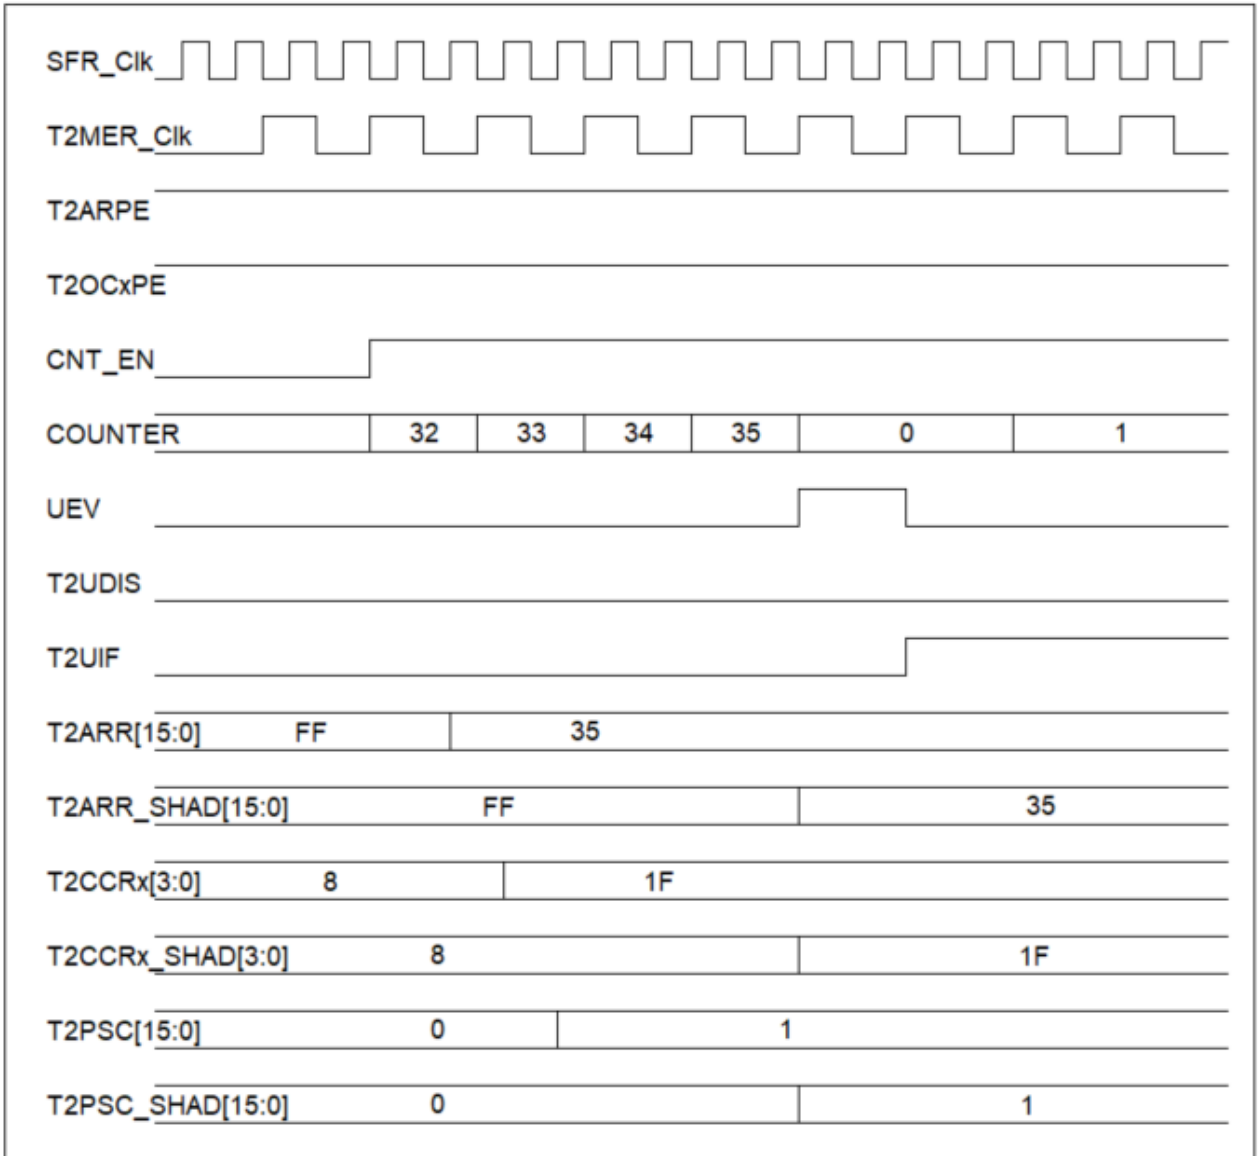

Figure 7-33 Update timing diagram of the pre-load registers under the update event
- (1) When the counter is enabled ($T2CEN = 1$) and its corresponding preload is enabled ($T2OCxPE / T2ARPE = 1$), its shadow register will be updated to the preload value when an update event occurs, as shown in Figure 7-33;
- (2) When the counter is disabled ($T2CEN = 0$), or its corresponding preload is disabled ($T2OCxPE / T2ARPE = 0$), its shadow register will be updated directly with the preload value;